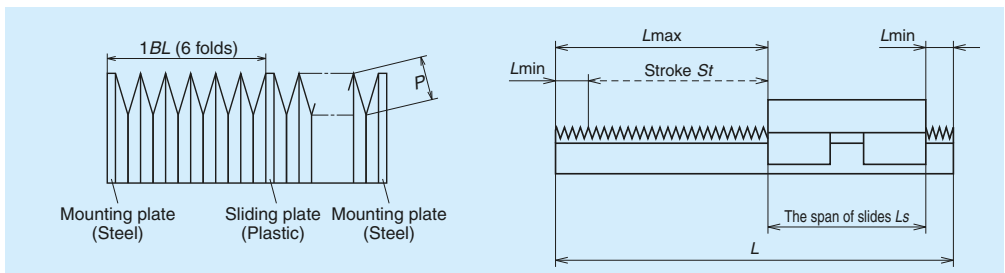

Fig. 7.10
- Bellows fastener is available only for horizontal mounting positions. For other mounting positions, sliding plate is required (see **Fig. 7.10** on page A56.)
- A bellows forms one block (BL) with six folds as shown in Fig. 7.10. The stroke is determined by multiplying by an integer of this BL.